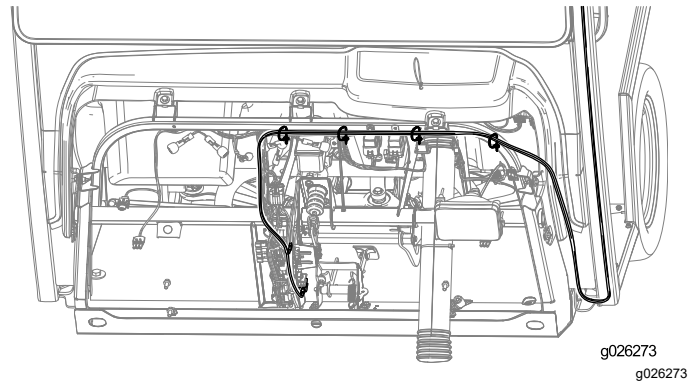

Figure 33
1. Route the wire harness as shown in Figure 33 and secure it with the 4 cable ties.